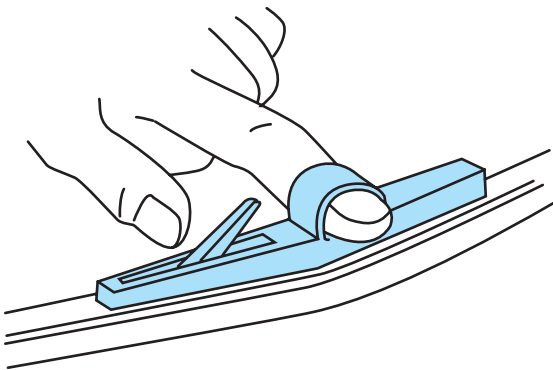

FIGURE 15.29 A click-type belt tension gauge is used for measuring tension on V-ribbed and timing belts.
- Use a *click-type tension gauge* for V-ribbed and timing belts (**Figure 15.29**).